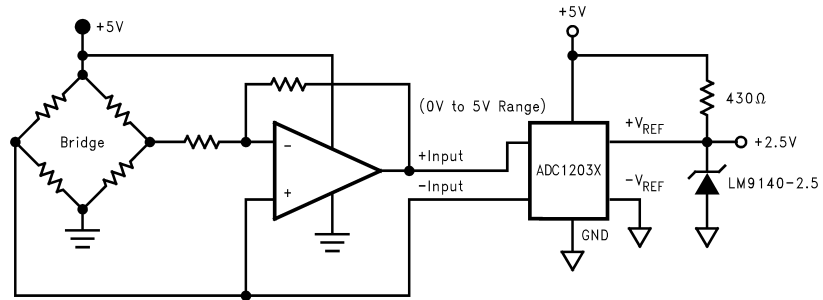

**Figure 37. AC Coupled ADC Driver**
The LMP201X is a great choice for an amplifier stage immediately before the input of an ADC (Analog-to-Digital Converter), whether AC or DC coupled. See Figure 37 and Figure 38. This is because of the following important characteristics:
- E)** Rail-to-Rail output swing maximizes the ADC dynamic range in 5-Volt single-supply converter applications. Below are some typical block diagrams showing the LMP201X used as an ADC amplifier (Figure 37 and Figure 38).